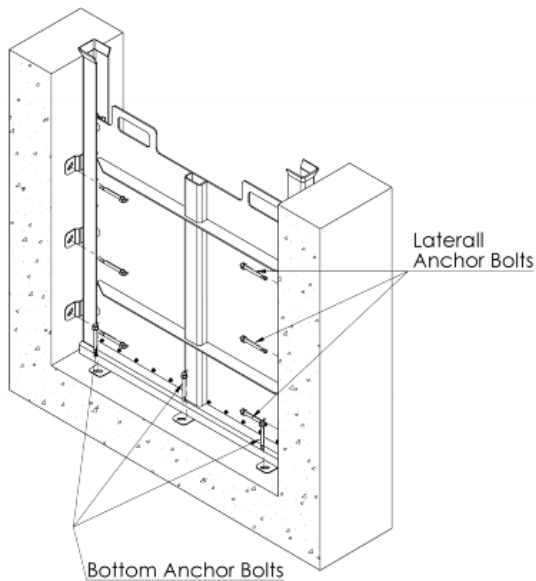

Figure 8
- Install the bottom anchor bolts, and then the lateral anchor bolts (see Figure 8). All Face Mounted Channel Gates include lateral mounting brackets.